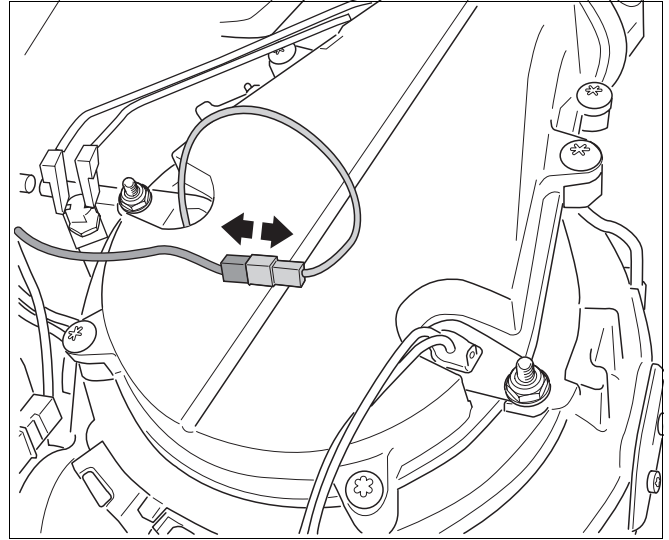

fig. 97 Disconnecting plug
- Disconnect the plug of the ionisation electrode (→ fig. 97).